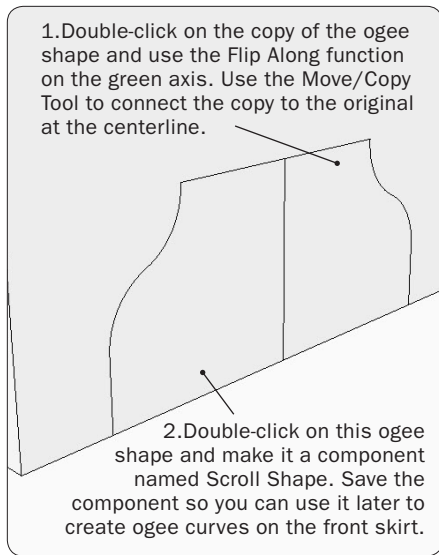

Figure 10. Flip the copy of the ogee shape and connect it to the original.
Step 7 Use the Flip Along function to mirror the copy of the shape. Then use the Move/Copy Tool to connect the copied shape to the original one at the centerline. Zoom in close to be sure that the two shapes connect on the centerline at the base of the component. Double-click the mouse on the half shape, right-click on the selection, and choose Make Component from the pop-up menu. In the Make Component pop-up box, do not check the box that says “replace selection with component.” Name it Ogee Shape. This component will be used later for shaping the front skirt component (Figure 10). SketchUp automatically saves the component; you can easily retrieve it and use it later to help shape the front skirt.